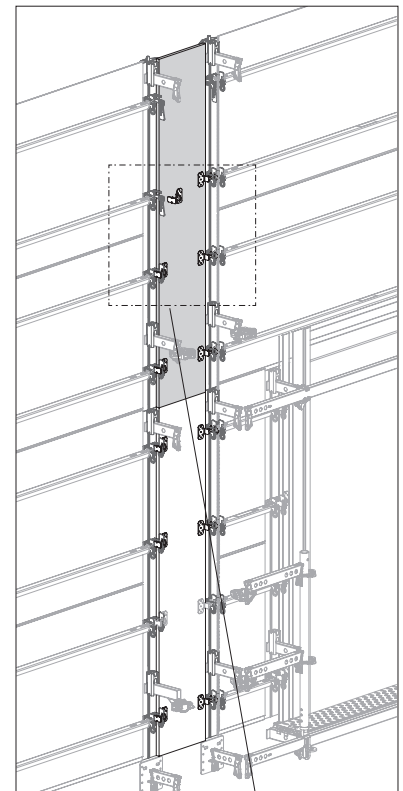
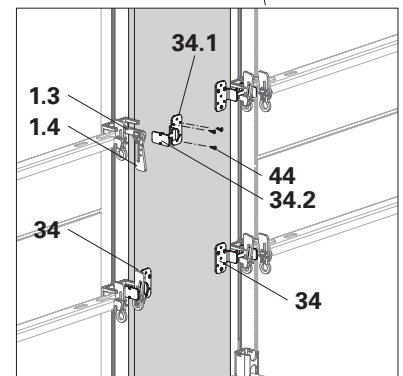

Fig. C5.02
Fig. C5.02a
3. Place 8 x Adapter CEA (**34**) with contact plate (**34.1**) against wooden plate and insert the intermediate plate (**34.2**) into the handrail support (**1.3**) of the support rail. Swivel up the wedge (**1.4**) and knock the adapter CEA tight. (Fig. C5.02 + Fig. C5.02a)